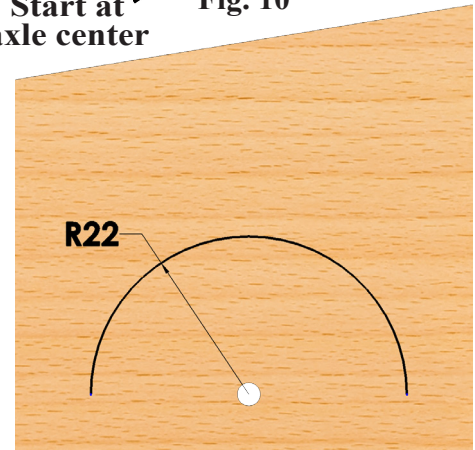
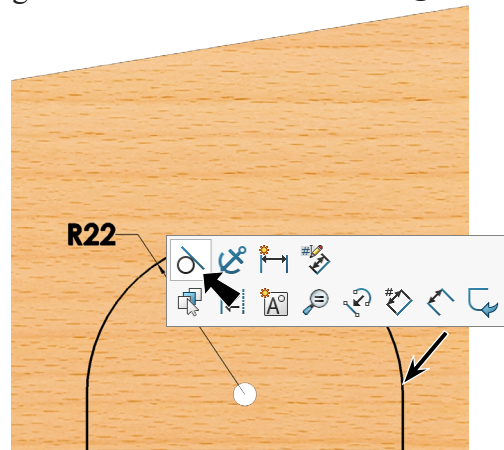

Fig. 11
Fig. 12
Step 7. **Dimension arc 22, Fig. 11**. The front wheel diameter is 34.7 mm. We're setting the rear shell radius to slightly larger than 1/2 the wheel diameter.
Step 8. Click **Line**  (L) on the Sketch toolbar.
Step 9. Sketch **3 lines, Fig. 12**. Use the vertical tangent inferring relations  to create tangent relation to arc. Use **Make Tangent**  on the Constraint pop-up toolbar to add tangent relation to the right vertical line, **Fig. 12**.